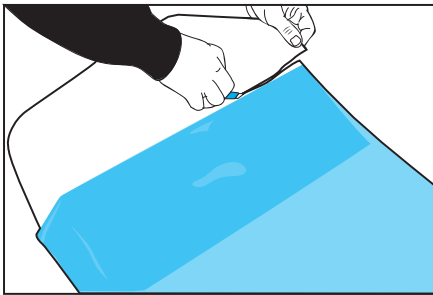

Figure 04
- › Remove approximately 10 cm (4 in.) of the liner. (FIG. 04).